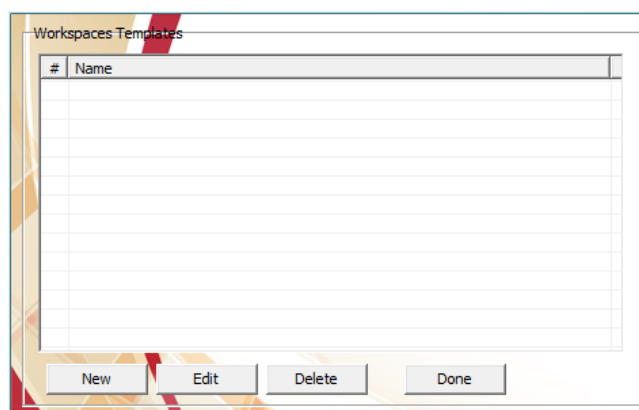

Figure 13 : Choose Workspace Templates Window
2. **Workspace Template** displayed (see Figure 13).
1. Press the **New** button in the Choose Workspace Templates Window (Figure 13).
1. Choose the Workspace you want to edit from Choose Workspace Template (see Figure 13).
1. Choose the Workspace you want to delete from Choose **Workspace Template** (Figure 13).